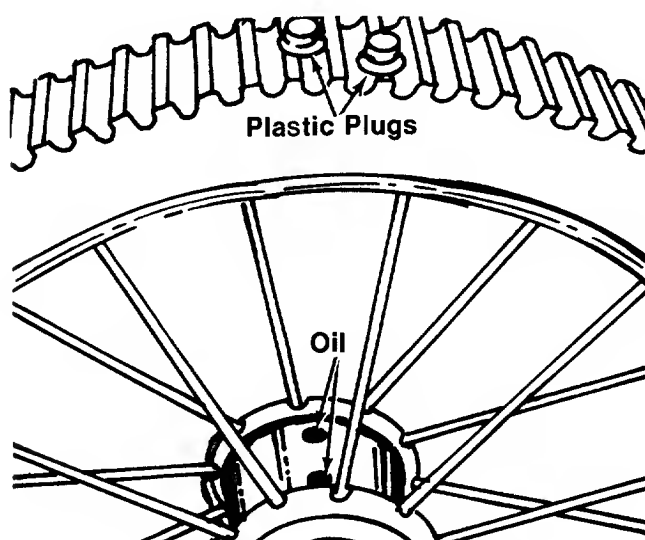

FIGURE 6.
Add several drops of oil to the hubs of the rear wheels as shown in figure 6. Insert the plastic plugs (G) into the hubs of the rear wheels.
1. **Wheels**—Front and rear wheel bearings are ball bearing. Lubricate periodically with a few drops of light oil. To lubricate the rear wheels, remove the oil caps and add several drops of oil. Refer to figure 6.